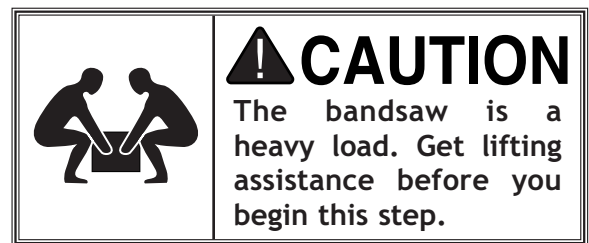

Figure 7. Bandsaw body mounted on the cabinet stand.
2. With the help of another person, carefully place the bandsaw body on the cabinet stand and align the mounting holes (see **Figure 7**).
3. Secure the bandsaw body to the cabinet with (4) $\frac{5}{16}$ "-18 x 1 $\frac{1}{2}$ " hex bolts, $\frac{5}{16}$ " lock washers, $\frac{5}{16}$ " flat washers, and $\frac{5}{16}$ -18 hex nuts.